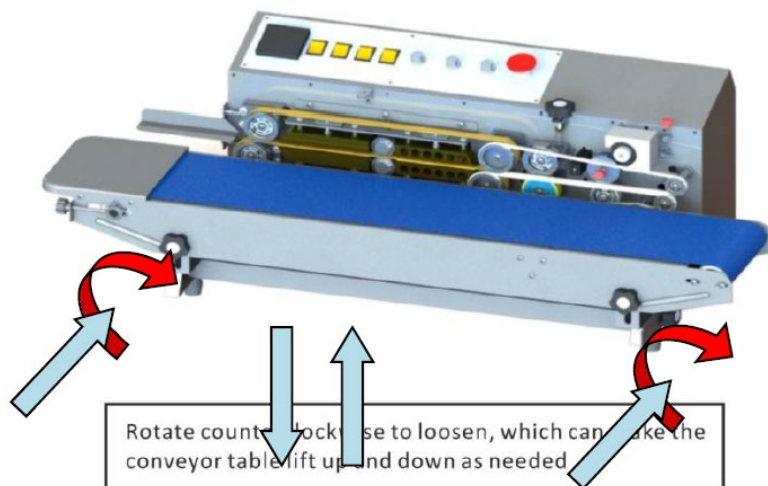

Figure 5. Adjusting the conveyor height of horizontal configuration
5. To adjust the conveyor height (horizontal configuration), adjust the height by the adjusting knob in front of the conveyor table and tighten after adjustment. Refer **Figure 5** to for knob adjustments. For vertical configuration only, adjust the height of the band sealer appropriate for your bag to be sealed.